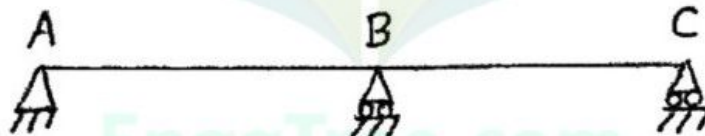

Figure 1
12. (a) A two span continuous beam ABC with spans  $AB = BC = 4$  m (Figure 1). Determine and construct the influence line diagram for shear force at a point 3 m from the support A. Compute the ordinates at 1 m intervals.